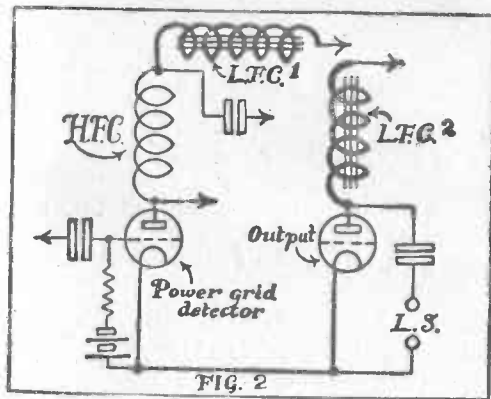

FIG. 2
L.F. CHOKES.—Chokes with a laminated iron (or iron substitute) core are used for L.F. work. Fig. 2 shows common uses of L.F. chokes. L.F.C.¹ needs to be of a very high-inductance type, but L.F.C.² can usually have an inductance of, say, 20 or 30 henries. L.F.C.¹ is used for parallel-feed coupling